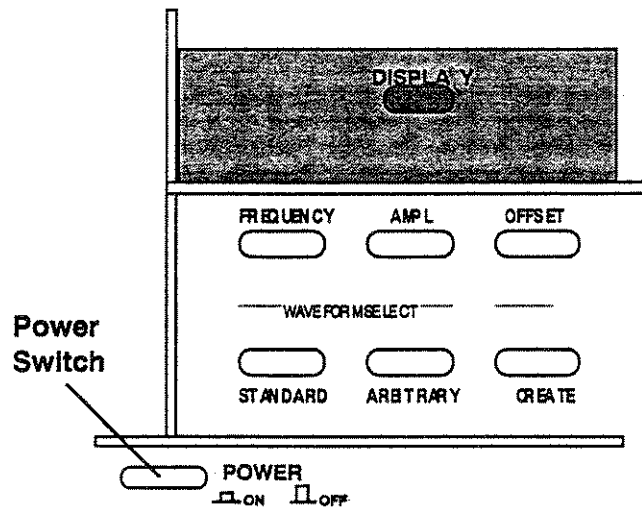

Figure 2-5. Power Switch
2. Press the "POWER" On/ Off switch in to turn the unit on (figure 2-5).